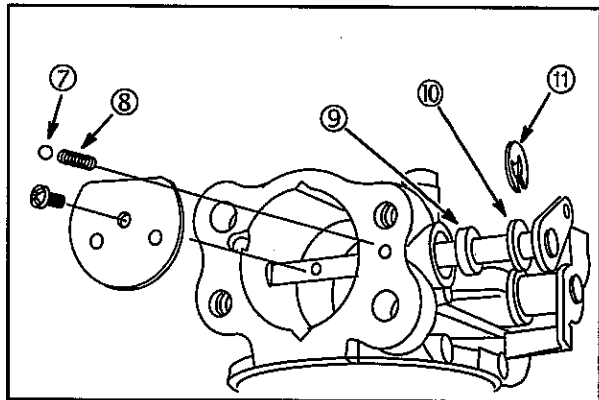

Fig. 35
10. Install new "E" ring (11), washer (10) and felt seal (9) onto choke shaft, **Fig. 35**.
11. Insert spring (8) and check ball (7) in to spring pocket. Compress with a small round punch.
13. Install choke plate as shown, **Fig. 35**.